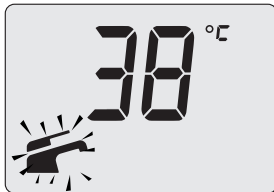

Figure 2.9
- the "set" value of the domestic hot water and the  symbol flash. The display background lights up (Figure 2.9).